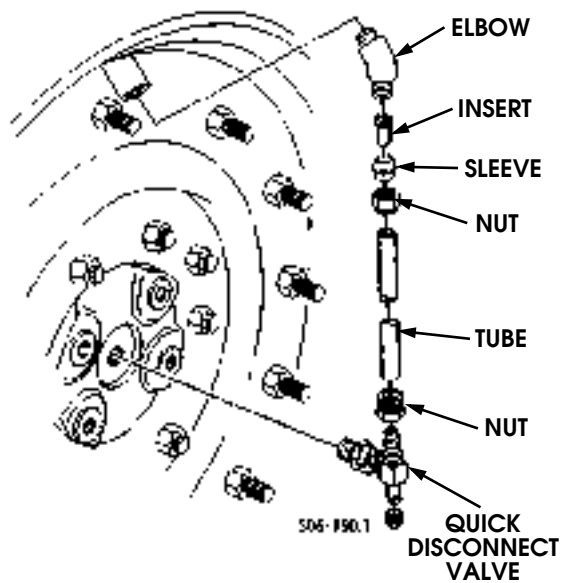

Figure 6-76: Quick-Disconnect Valve Assembly
3. Remove tube and nut from quick-disconnect valve (Figure 6-76).
1. Install quick-disconnect valve into spindle (Figure 6-76).